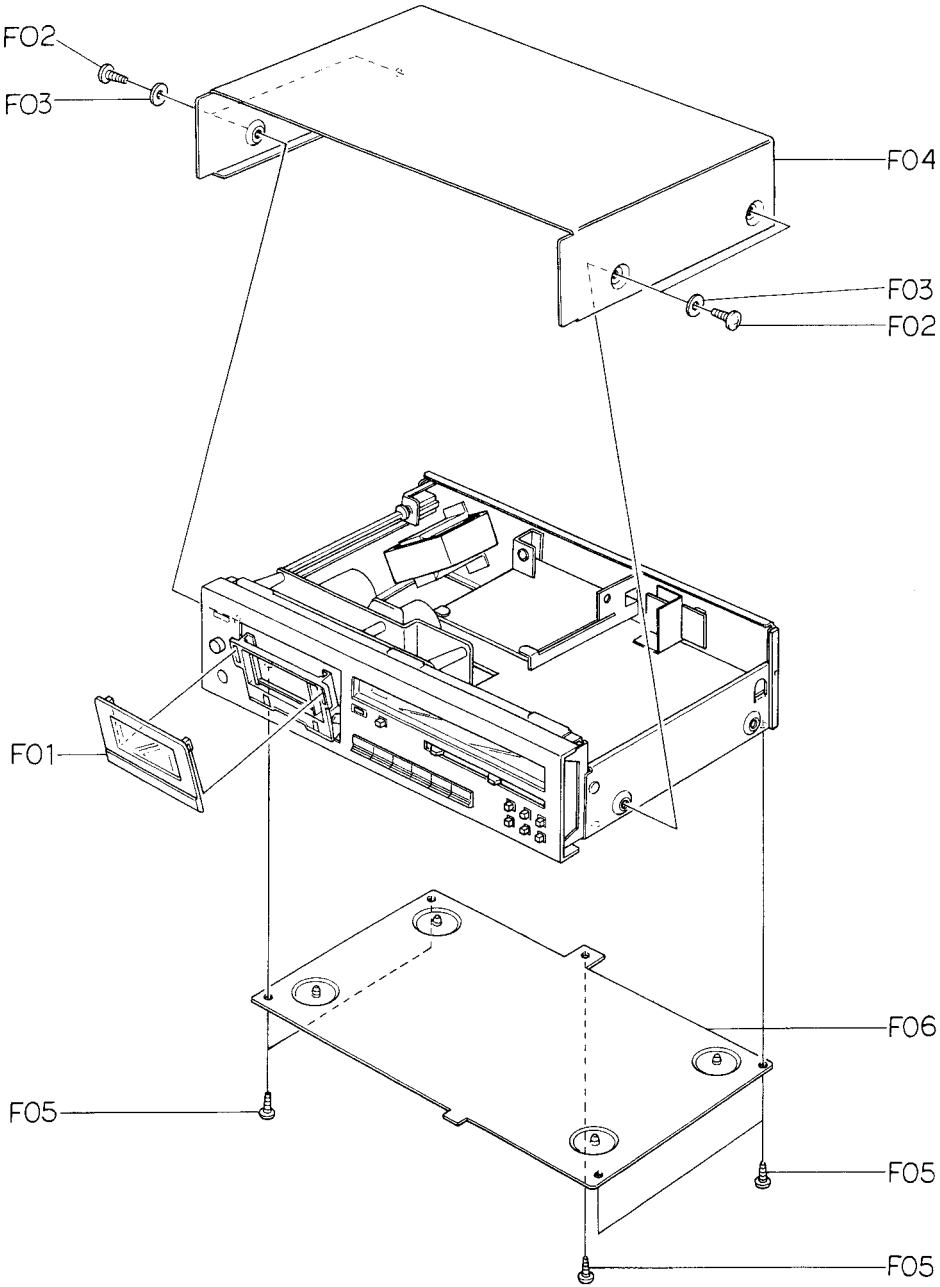

Fig. 2.1
Refer to Fig. 2.1.
- (1) Refer to Fig. 2.1. Remove Top Cover Ass'y and Bottom Cover Ass'y referring to items 2.2 and 2.3.
- (2) Pull out F01 (Volume Knobs) and F02 (Bias Tune Volume Knob).
- (3) Remove F03 (Power Switch Joint Bar) by releasing the self-interlocking pin of the Power Switch Joint Bar from Power Switch, and turn F03 (Power Switch Joint Bar) by 90° either clockwise or counterclockwise, then disassemble F03 (Power Switch Joint Bar) from the Power Switch Knob Ass'y.
- (4) Remove F04, then disassemble F05 (Front Panel Ass'y).
- (1) Refer to Fig. 2.1. Remove Top Cover Ass'y referring to item 2.2.
- (2) Remove F01, F02 and F03, then disassemble F04 (Rear Panel Ass'y).
- (3) Remove F05 and F06, then disassemble F07 (Power Transformer).
- (4) Remove Power Switch Joint Bar by releasing the self-interlocking pin of the Power Switch Joint Bar from Power Switch and F08, then disassemble F09 (Power Switch Holder Ass'y).
- (5) Remove F10, then disassemble F11 (Power Switch).